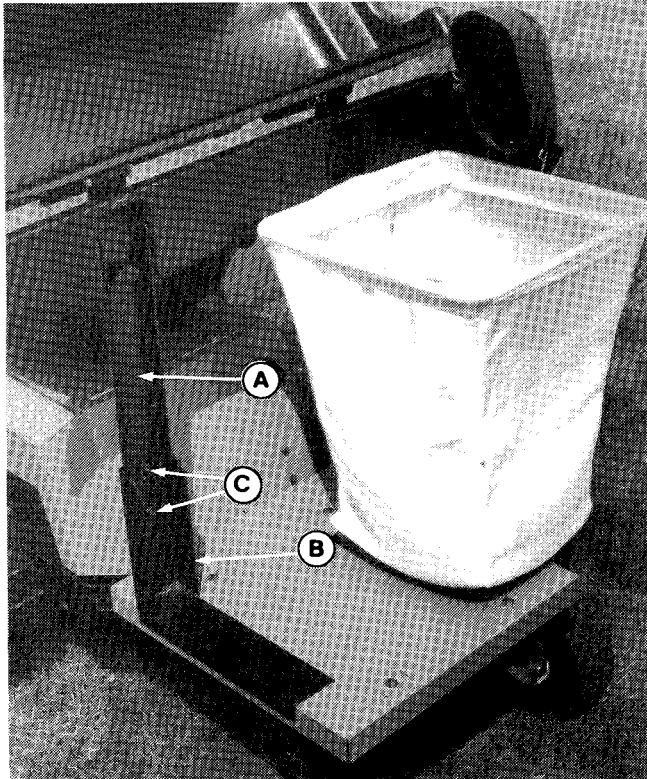

Figure 27.
2. Attach the two upper braces (A, figure 27) to the bracket (B) with four 5/16-18 x 7/8" capscrews, 5/16" lockwashers and nuts (C).